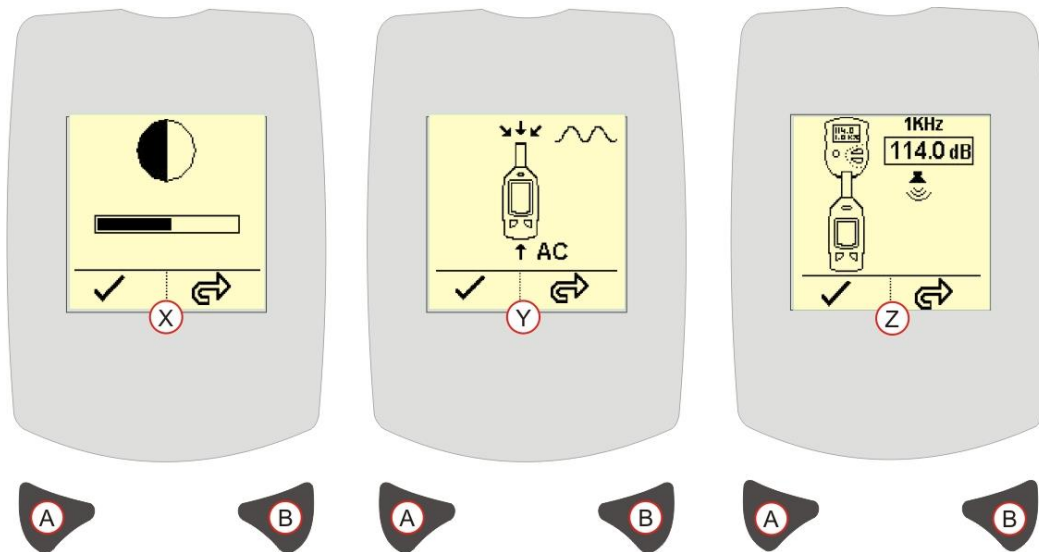

Figure 9 Configuration Menu
The Configuration Menu (Refer to Figure 9) is used to make changes to the Display Contrast, Calibration Level and the Signal Input Source.
DISPLAY CONTRAST – [Figure 9 Reference X]. Press Right key (B) to adjust the Contrast. When the contrast is considered ideal press Left key (A) to accept the changes and progress to the Calibration Level screen.
SIGNAL INPUT SOURCE – [Figure 9 Reference Y].
CALIBRATION LEVEL – [Figure 9 Reference Z]. This screen is used to set the nominal output level of the acoustic calibrator e.g. 114.0dB. Press Right key (B) to adjust the calibration level. Refer to the calibration certificate for the acoustic calibrator for the calibrator output level. Press Left key (A) to accept the changes and progress to the main measurement screen.